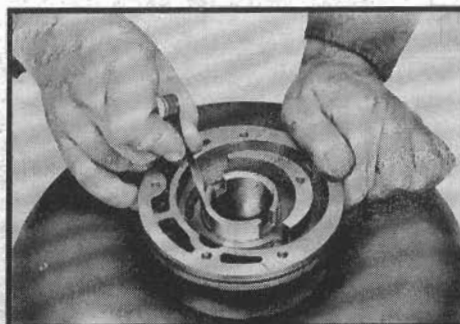

Fig. 39 Measuring clearance between pump body bushing and converter pump hub. 1953-59
6. Inspect pump body bushing for galling or scoring. Check clearance between bushing and converter pump hub, Fig. 39. Maximum clearance .007".